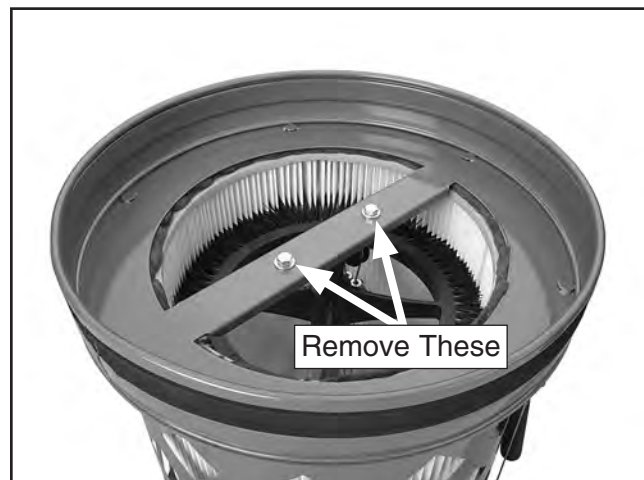

Figure 61. Cross support fasteners.
6. With help from another person to steady the canister assembly, turn it upside down and remove the two hex bolts, hex nuts, and flat washers from the cross support (see **Figure 61**), then remove the canister base from the assembly.